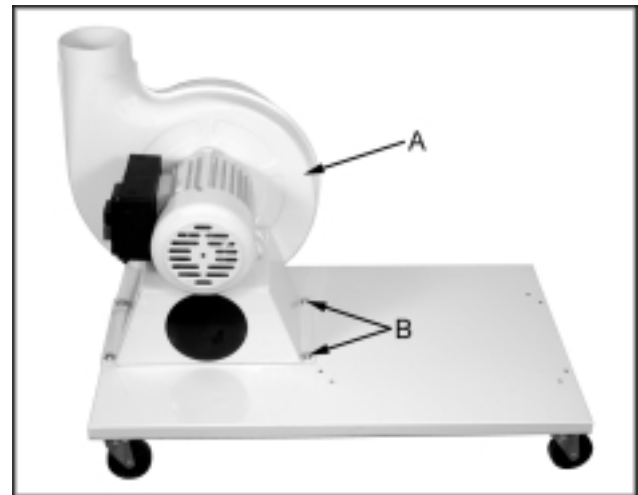

Fig. 2
2. Place the base with casters on the ground. Attach the motor and fan assembly (A, Fig. 2) to the base using four M8 x 16 hex cap bolts, four M8 flat washers (B, Fig. 2), and a 1/2" or 13mm wrench.